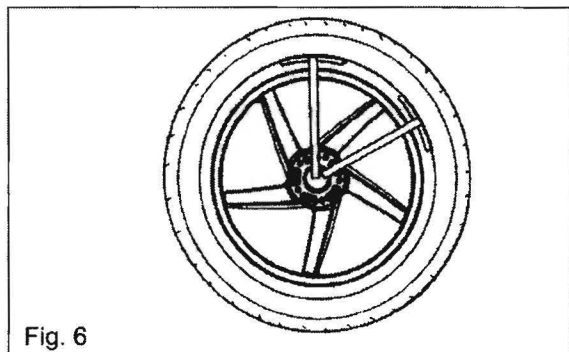

Fig. 6
8. Stand opposite of rim protectors and use your knee to push the tire DOWN into rim's drop center while pulling bottom bead UP into the drop center. For purposes of this procedure, the rim protector directly opposite you is now labeled the "12 o'clock" rim protector. (Fig. 6)